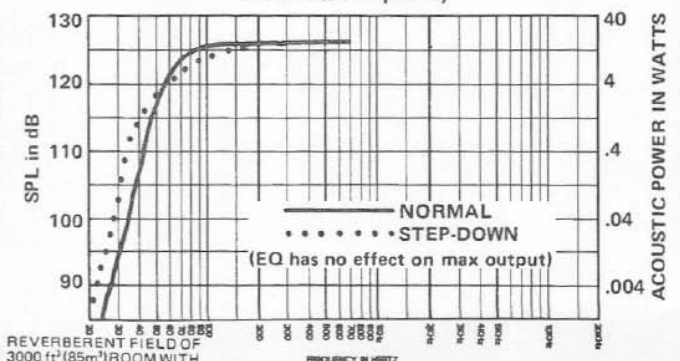
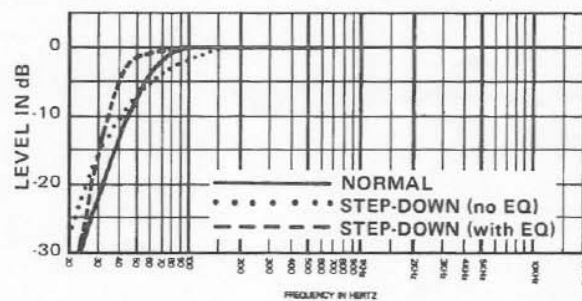

FIGURE 7
FIGURE 6
Figure 6 shows small-signal total acoustic power output versus frequency for the TL606/EVM-15B, Pro-Line. In addition, Figure 7 shows the maximum acoustic power output versus frequency. The maximum output is limited by either (1) the thermal power handling capacity of the speaker, or (2) the speaker's maximum linear cone excursion capabilities, whichever occurs first. Note that some 2 to 3 dB of maximum output in the 60 to 90 Hz range is sacrificed when the step-down mode is used.